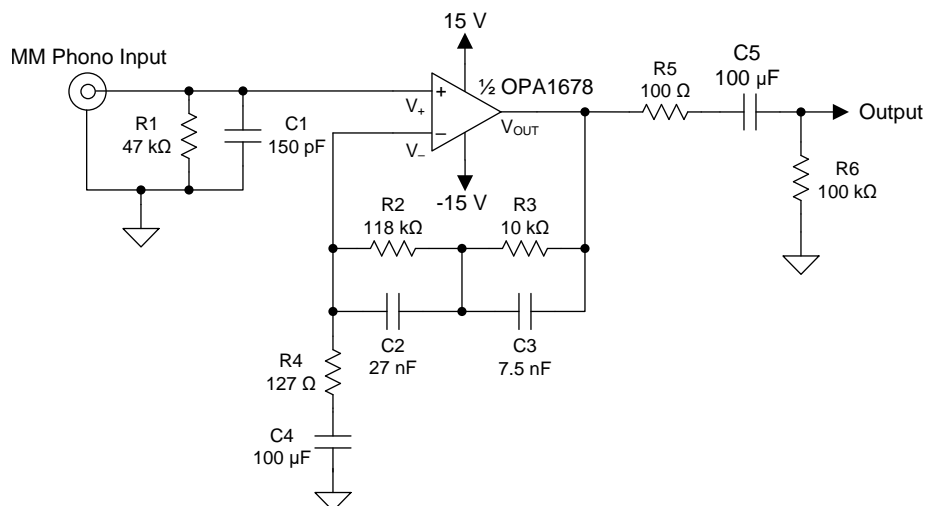

图 38. Phono Preampifier for Moving Magnet Cartridges (Single-Channel Shown)
The noise and distortion performance of the OPA167x family of amplifiers is exceptional in applications with high source impedances, which makes these devices a viable choice in preamplifier circuits for moving magnet (MM) phono cartridges. 图 38 shows a preamplifier circuit for MM cartridges with 40 dB of gain at 1 kHz.